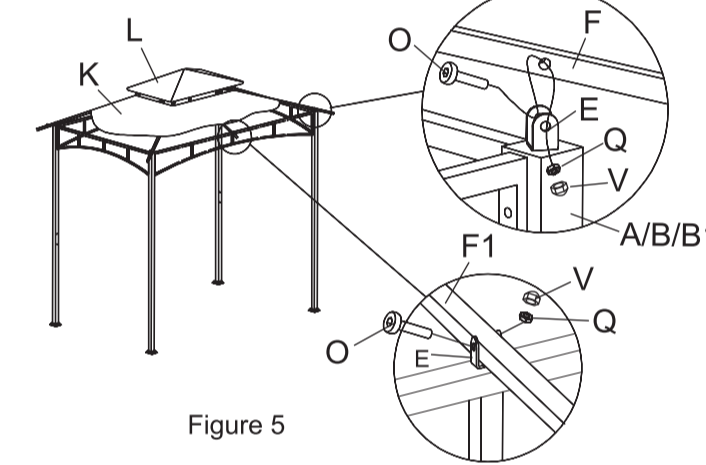

Figure 5
Then Connect the Top Tube (F) of the Canopy Frame assembled in Step 3 with the U-shape Connector (E) to the Pillars (A/B/B1) in four corners with the Bolt (C), Nut (Q) and Nut Cap (V) as shown in Figure 5.